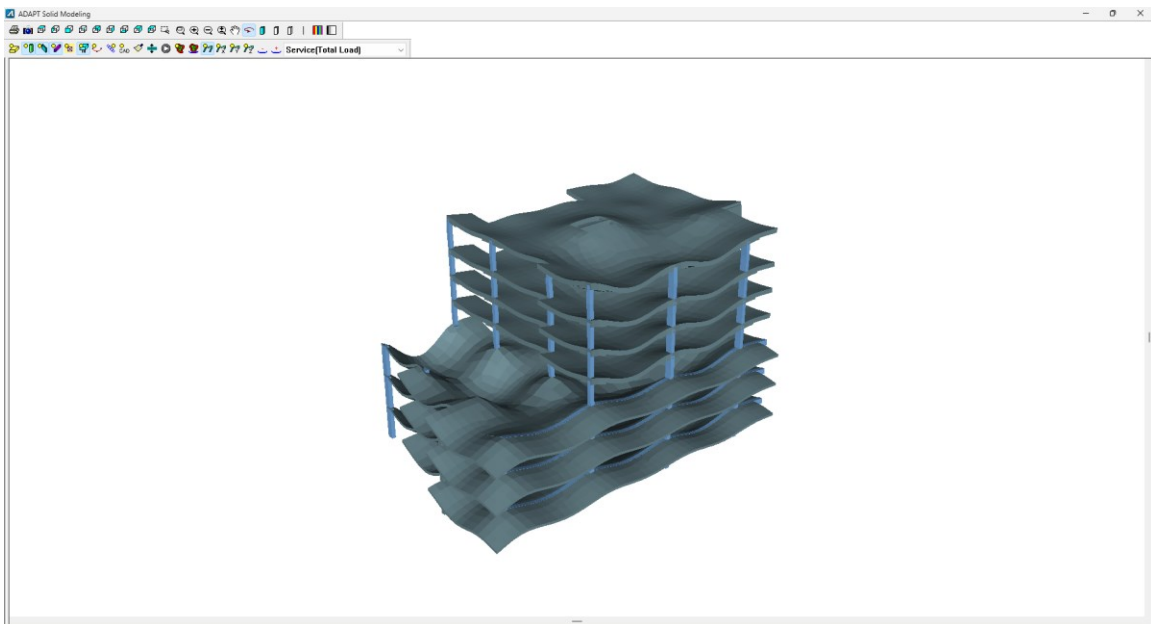

FIGURE 7-19
- If we click on the **Solid Modeling Global Deflection Contour**  icon, we can see the global deflection of the structure as shown in **FIGURE 7-19**. Global deflection shows the X, Y, and Z direction deflections all at once.